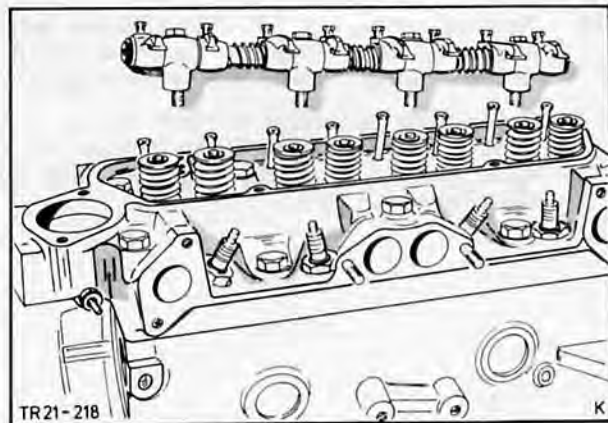

Fig. 33. Remove rocker shaft
10. Detach rocker shaft (4 bolts), Fig. 33, and remove push rods. **Do not interchange push rods when reinstalling.**